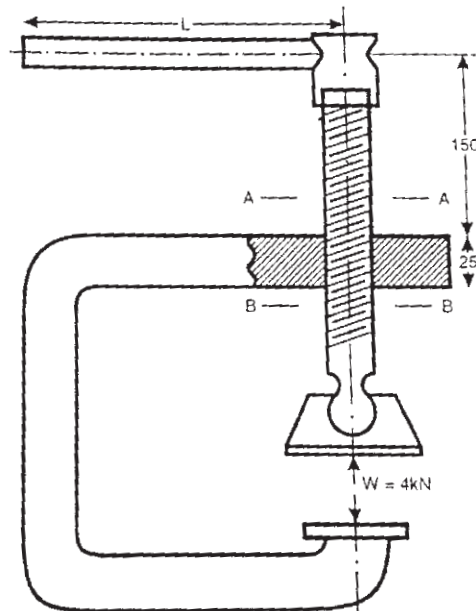

Figure 3. C -clamp
**Q4)** A C-clamp as shown in Figure 3 has trapezoidal threads of 12 mm outside diameter and 2 mm pitch. The coefficient of friction for screw thread is 0.12 and for collar is 0.25. the mean radius of collar is 6mm. If the force exerted by the operator at end of handle is 80N.